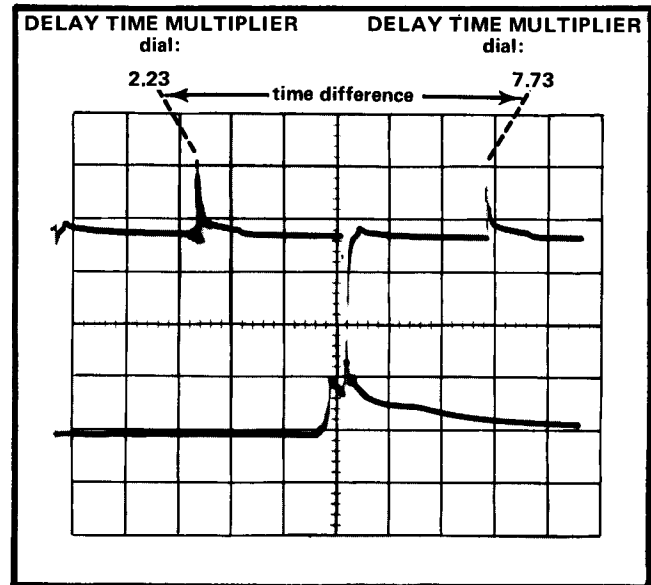

Fig. 2-12. Measuring time difference using delayed sweep.
2. Set the VOLTS/DIV selector to produce a display about three divisions in amplitude (see Fig. 2-12).
Example: Assume the first dial setting is 2.23 and the second dial setting is 7.73 with the TIME/DIV set to $5\ \mu\text{s}$ (see Fig. 2-12).